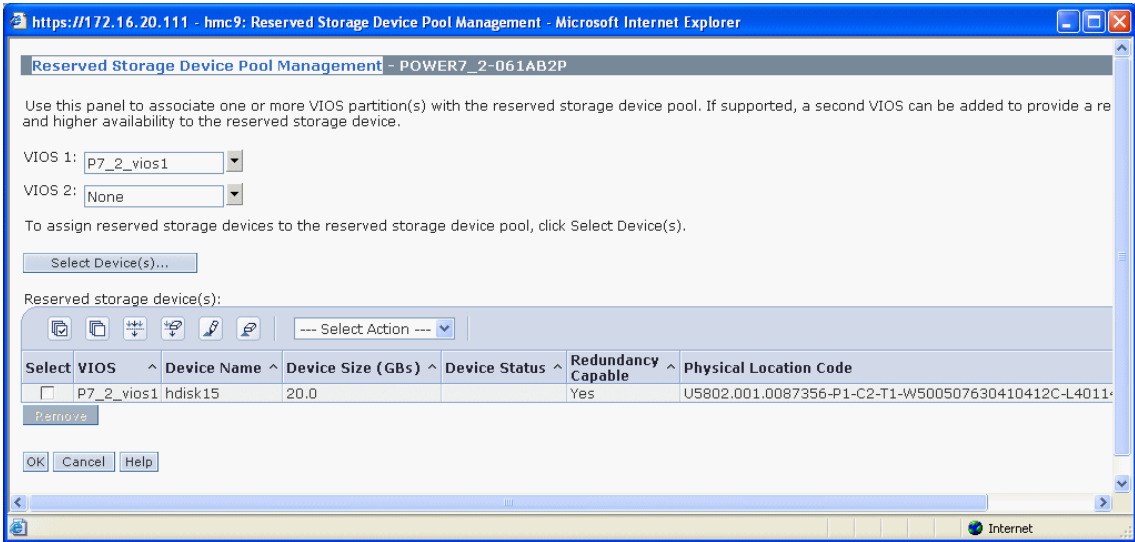

Figure 17-25 Reserved storage device pool creation
- Review the Virtual I/O Server and devices selected (Figure 17-25), then click **OK** to proceed with the reserved storage pool device creation.